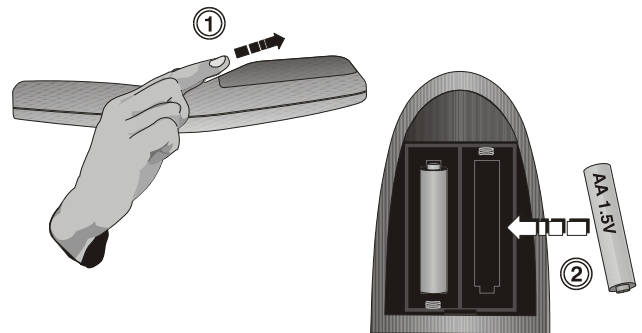

Figure 4.2. Replacing Batteries
1) Open the battery compartment at the backside of the keypad by placing your thumb in the oval depression and sliding the cover out about ½ inch. See **Figure 4.2**. Remove the old batteries and properly discard. Wait a minute or two.